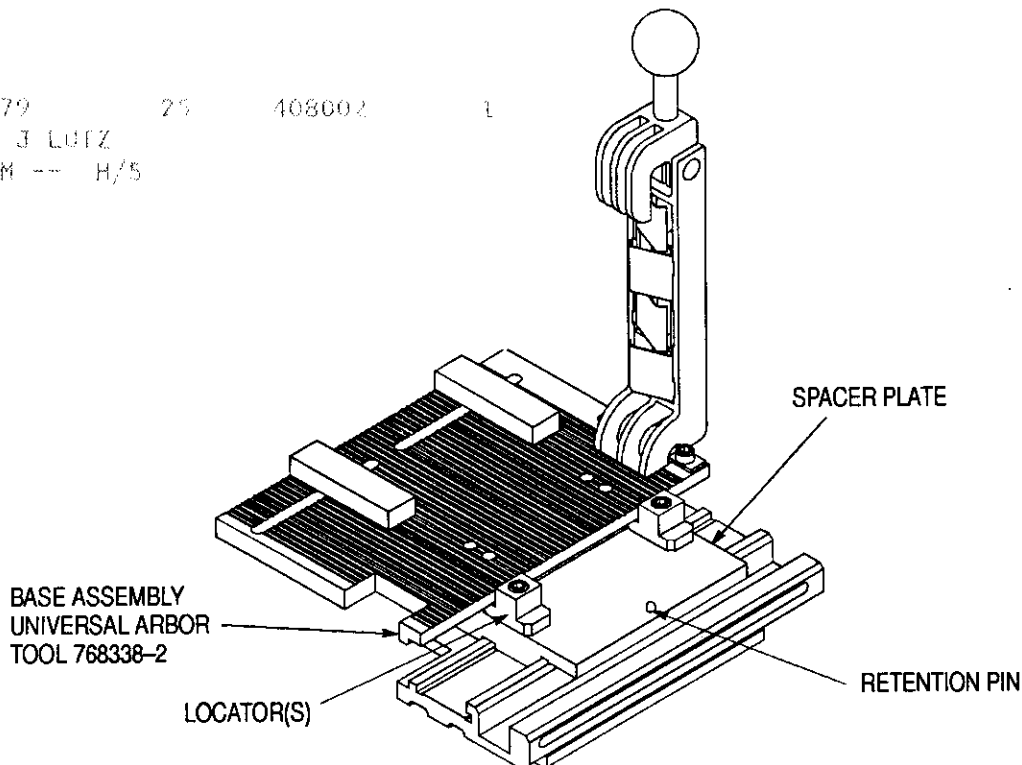

Figure 3
3. Position the paddleboard terminator onto the locator kit between the locators and the retention pin with the connector cover facing up. See Figure 3.
4. Insert the cable into the paddleboard terminator; then place the cable onto the fluted plate between the cable guides. Align the spacer plate so that the centers of the contacts are in line with the flutes on the tool plate. When the cable conductors are directly over the insulation slots of the contacts, the spacer plate is properly aligned. Secure the spacer plate by tightening the two socket head cap screws. See Figure 3.